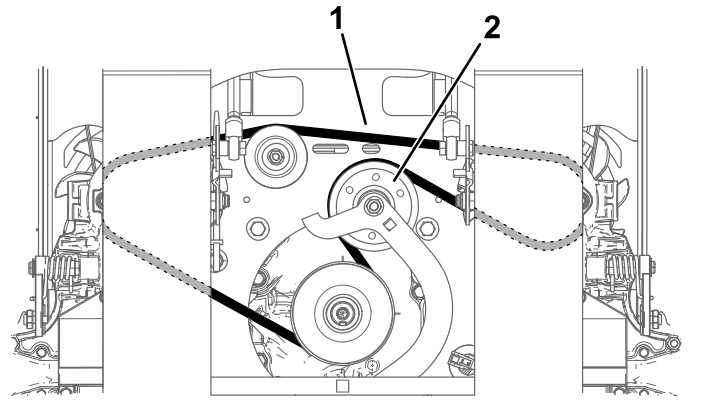

Figure 59
6. Remove the belt (Figure 59).
8. Install the new belt, routing it around the pulleys as shown in Figure 59.